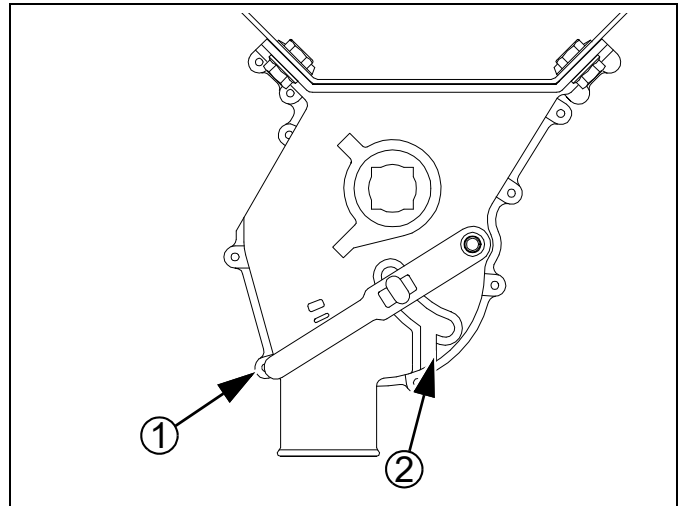

Figure 94
Refer to Figure 94, which depicts the seed cup door handle ① in a normal operating position.
1. Set the Seed Rate Handle to zero (0) for the section of the drill to be cleaned out. This moves the seed cup sprockets out of the seed path.
3. At the seed cup for that row, pull the door handle ① out of the operating detent range, and swing it down to position ②.